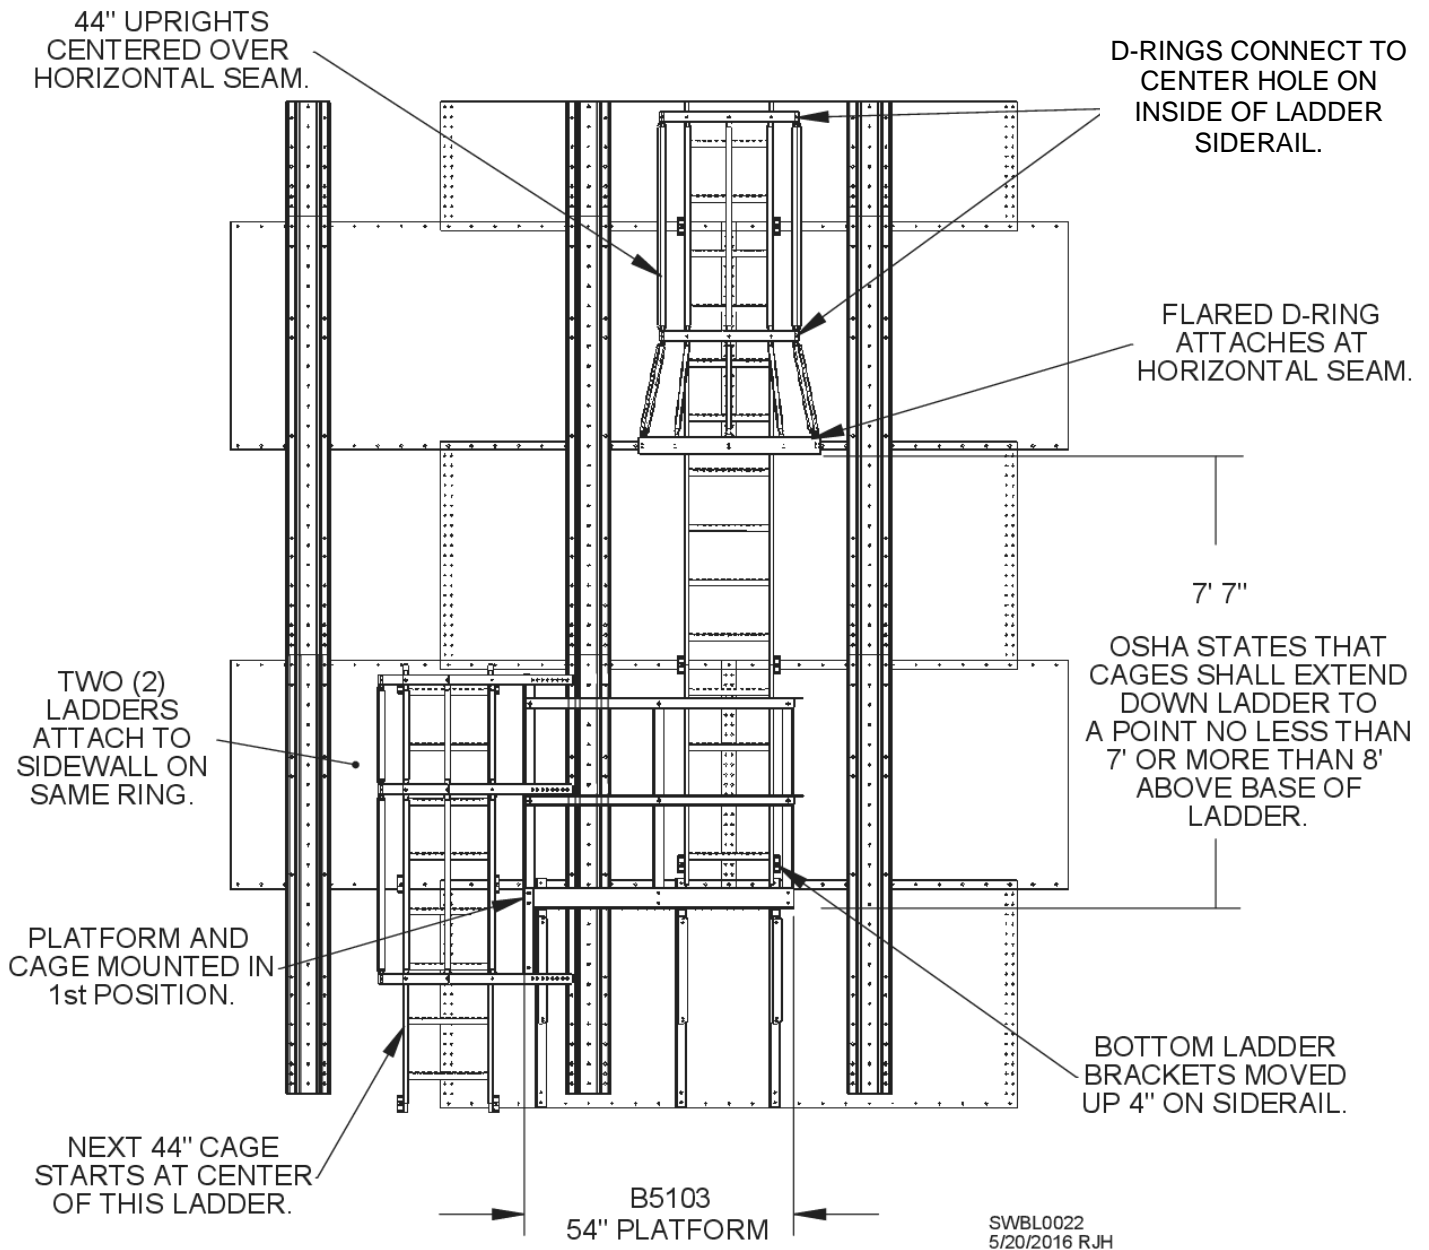

Fig. 27
Fig. 27 shows where flared D-ring should be attached in relation to landing platform. When attached correctly, flared D-ring should be two (2) sidewall rings above landing platform. **Landing platform must be attached to sidewall in 1st position.** This will ensure OSHA standards are met, as well as ease erection of ladder and cages. Two ladders attach to sidewall on same ring at landing platform location. Remember that at top and bottom of each ladder assembly, sidewall brackets need to be moved either up or down 4" to avoid interference with roof sheets, landing platform brackets, concrete and ladder caps.
To ensure that additional ladder columns will be centered between two stiffeners, attach landing platform to sidewall as shown in Fig. 27. Top ladder column should have already been centered between two stiffeners.
Attach 54" landing platform to sidewall directly under upper ladder (not shown). **Mount landing platform in 1st position.** See Fig. 27. Attach 44" ladder section to sidewall ring above platform, centered between two stiffeners. Fasten corner post extension, B5093, to bottom of open-faced corner post B5111 as shown in Fig. 28. Note that corner post B5111 is slightly longer than B5112 posts. Placement is critical.